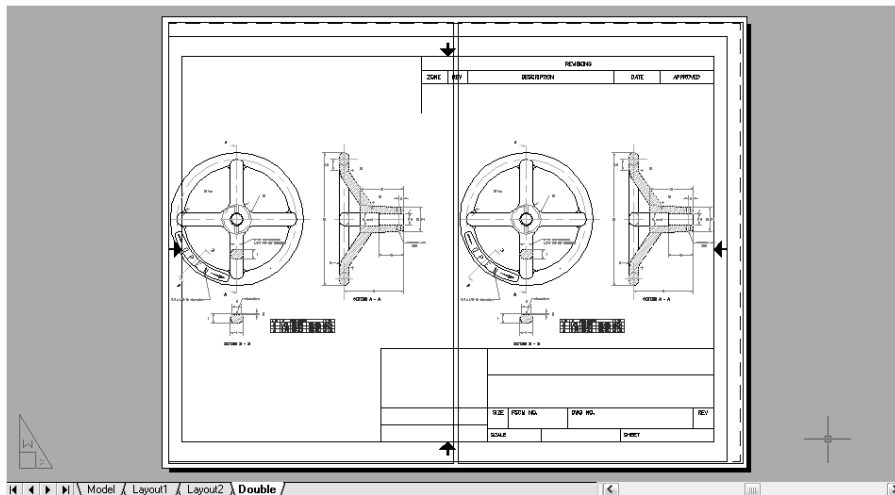

Figure 17-7: Using the Layout Wizard to create a paper space layout with floating viewports.
12. Save your drawing. It should look like Figure 17-7.